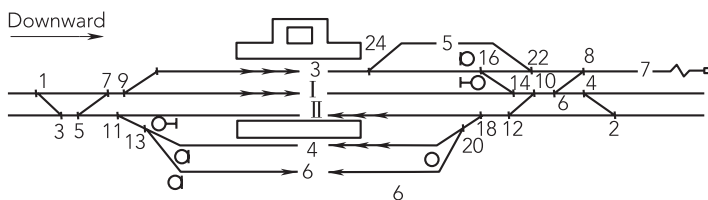
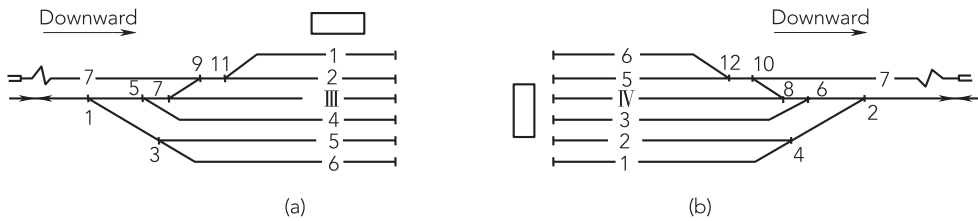

Fig. 1-9 Diagram for the numbering of lines and turnouts at a double-track railway station
Fig. 1-10 Diagram for the numbering of lines and turnouts at a stub-end station
(2) Tracks at a double-track section shall be numbered from the main line to the ones outside with tracks in the upward direction of the train running even-numbered and those in the downward direction odd-numbered. Refer to Fig. 1-9.
station building. Refer to the Fig. 1-10 (a), (b). If the station building is located at the end of the line, tracks shall be numbered consecutively from left to right with the farthest one from the end of the line numbered the smallest. Refer to the Fig. 1-10 (b).
(1) From the main route to the secondary one, turnouts are numbered with Arabic numerals from two ends of the station to its center. Turnouts located at where the upward train comes in shall be even-numbered while those located at where the downward train comes in shall be odd-numbered. The center line of the station building divides all turnouts in stations into two types, turnouts in the upward section and turnouts in the downward section. Refer to Fig. 1-9 and Fig.1-10.
(2) Turnouts on the same crossover or ladder track shall be either odd-numbered or even-numbered consecutively.
(3) Turnouts at a stub-end station are numbered in the ascending order from the farthest to the nearest of the end of tracks. Refer to Fig. 1-10.